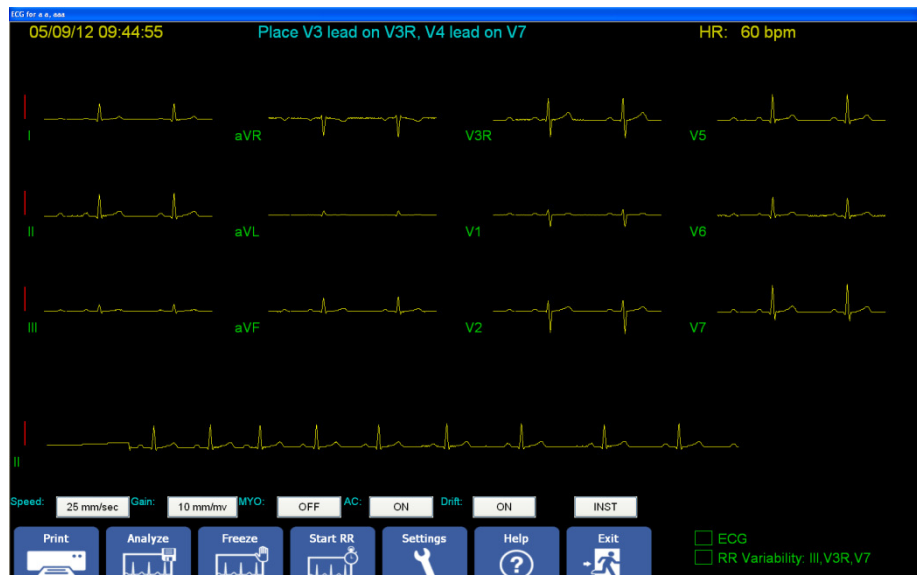

Figure 3-2 Modified 12-Lead
- The live ECG screen displays a message: “Place V3 lead on V3R, V4 lead on V7” at the top center for about 10 seconds (see *Figure 3-2*). Once the message disappears the facility’s name is displayed.